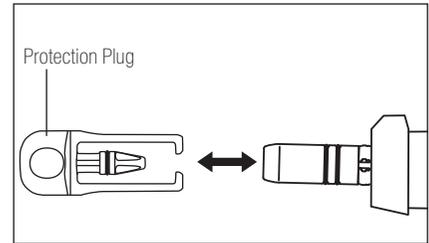

Fig.25
- 2) Attach the Protection Plug to the motor. (Fig.25)